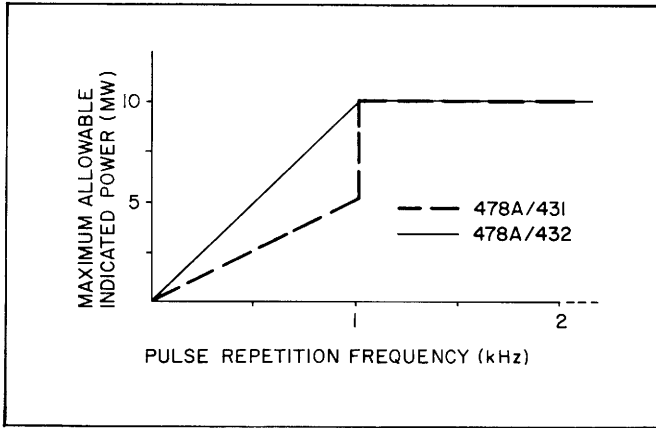

Figure 1. Maximum Power Meter Reading vs PRF for Pulses Shorter than 250 μ s
15. **PULSE ENERGY AND PEAK POWER FOR 478A/432 COMBINATION.** For pulses shorter than 250 μ s, energy per pulse must not exceed 10 W- μ s and peak power should never exceed 200 watts. (For example, a 40 mW, 250 μ s pulse contains 10 W- μ s of energy.) Pulses longer than 250 μ s are allowed to contain more energy but peak power must not exceed 200W. Figures 1 and 2 interpret these limits in graphical form. (For lack of space, the mount nameplate lists only a 5 W- μ s
16. PULSE ENERGY AND PEAK POWER FOR 478A/431 COMBINATION. The limitations of this combination are basically the same as the 478A/432 with the exception that at pulse repetition rates less than 1 kHz, energy per pulse must not exceed 5 W- μ s and peak power must not exceed 10 mW. These limits are also interpreted in Figures 1 and 2.